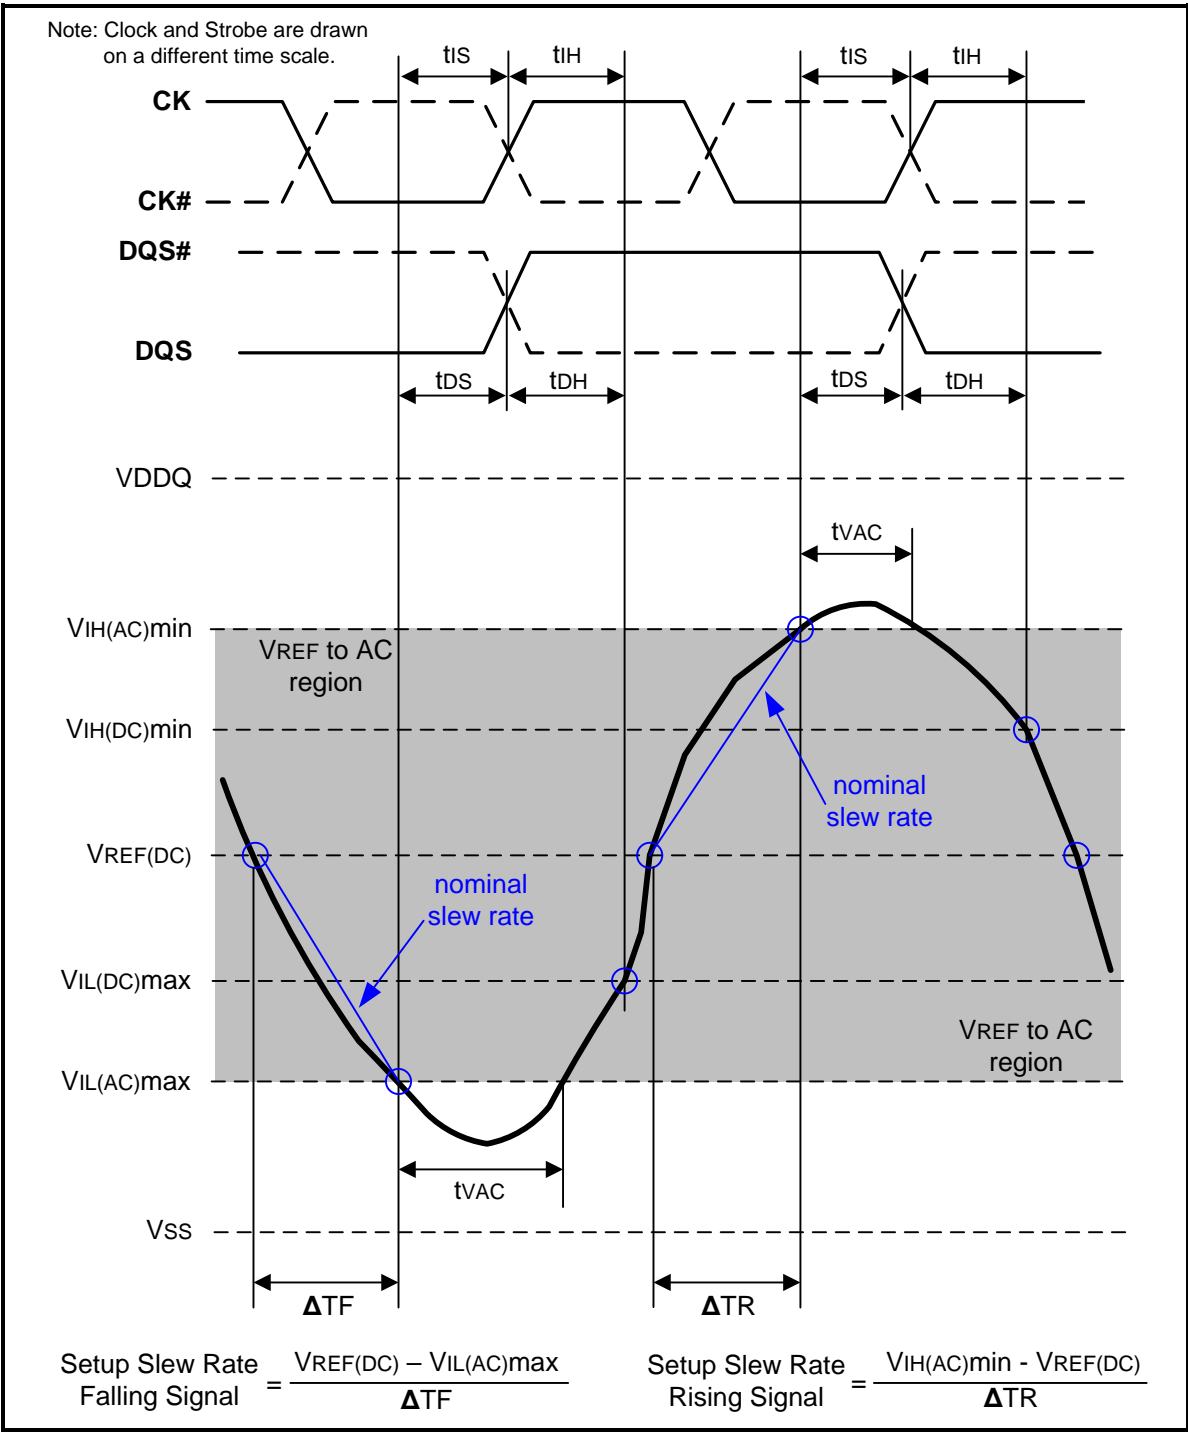
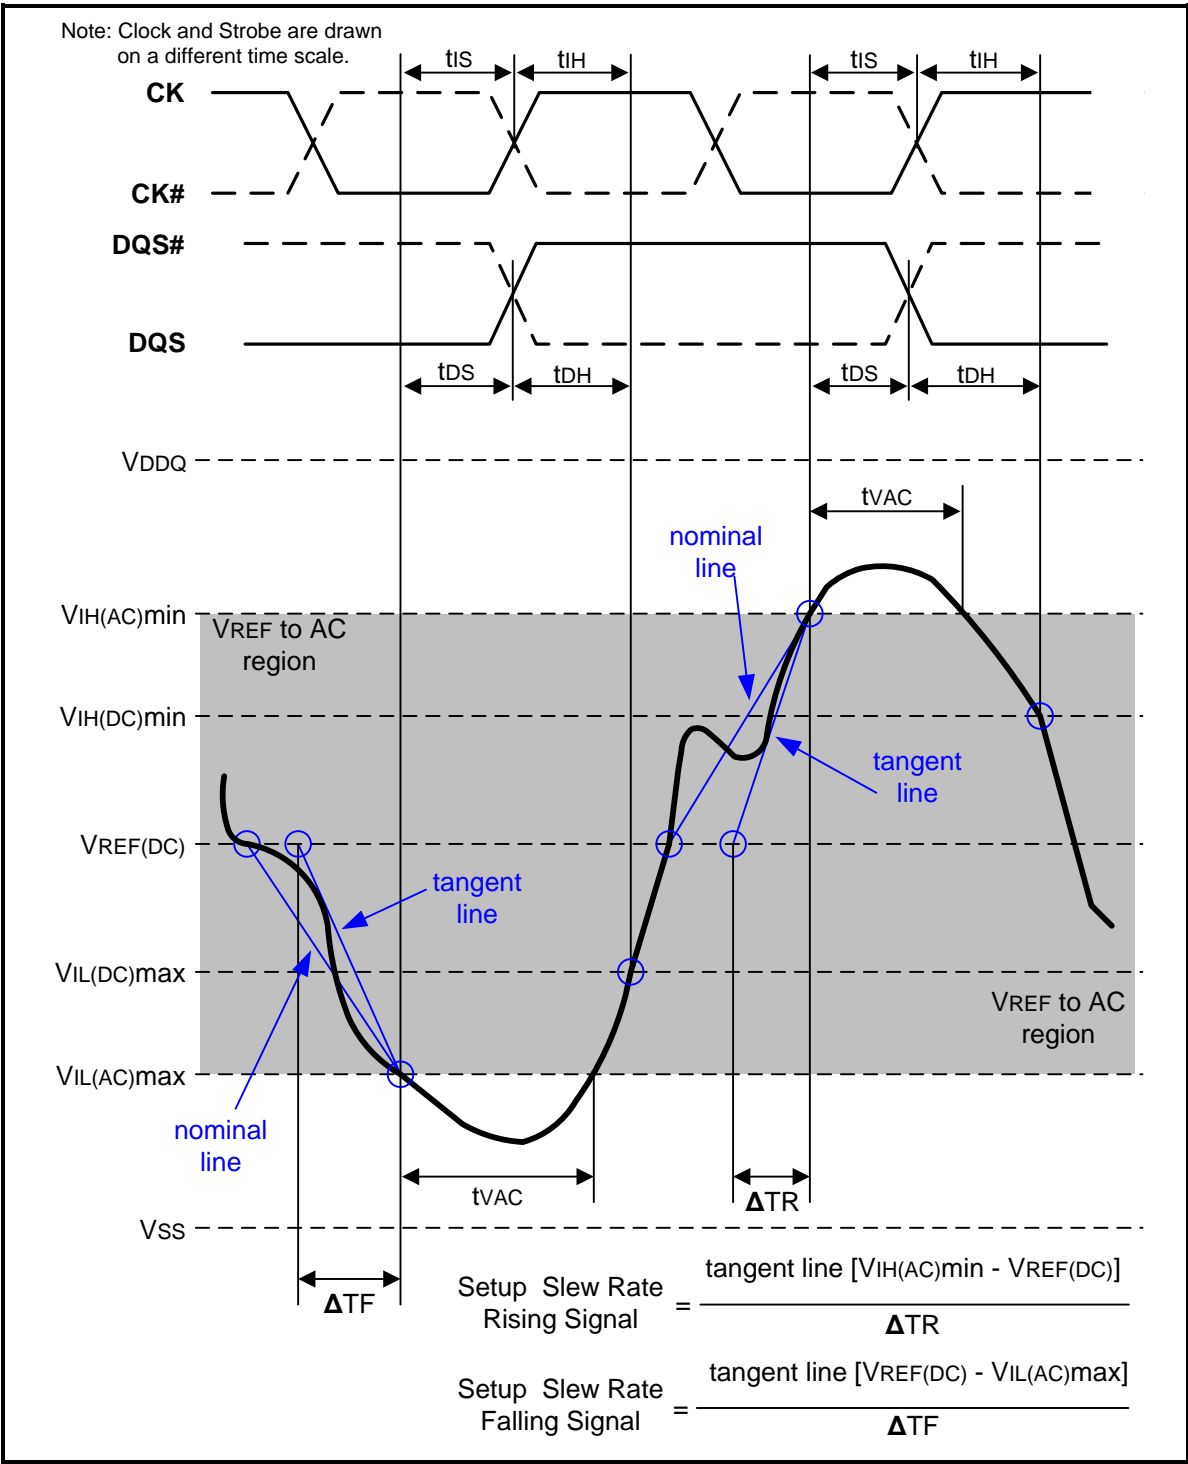

Figure 107 – Illustration of nominal slew rate and tvac for setup time tds (for DQ with respect to strobe) and tis (for ADD/CMD with respect to clock)
Figure 109 – Illustration of tangent line for setup time tds (for DQ with respect to strobe) and tis (for ADD/CMD with respect to clock)
Setup ( $t_{IS}$ ) nominal slew rate for a rising signal is defined as the slew rate between the last crossing of  $V_{REF}(\text{DC})$  and the first crossing of  $V_{IH}(\text{AC})_{\text{min}}$ . Setup ( $t_{IS}$ ) nominal slew rate for a falling signal is defined as the slew rate between the last crossing of  $V_{REF}(\text{DC})$  and the first crossing of  $V_{IL}(\text{AC})_{\text{max}}$ . If the actual signal is always earlier than the nominal slew rate line between shaded 'VREF(DC) to AC region', use nominal slew rate for derating value (see Figure 107). If the actual signal is later than the nominal slew rate line anywhere between shaded 'VREF(DC) to AC region', the slew rate of a tangent line to the actual signal from the AC level to  $V_{REF}(\text{DC})$  level is used for derating value (see Figure 109).
Setup (tDS) nominal slew rate for a rising signal is defined as the slew rate between the last crossing of VREF(DC) and the first crossing of VIH(AC)min. Setup (tDS) nominal slew rate for a falling signal is defined as the slew rate between the last crossing of VREF(DC) and the first crossing of VIL(AC)max (see Figure 107). If the actual signal is always earlier than the nominal slew rate line between shaded 'VREF(DC) to AC region', use nominal slew rate for derating value. If the actual signal is later than the nominal slew rate line anywhere between shaded 'VREF(DC) to AC region', the slew rate of a tangent line to the actual signal from the AC level to VREF(DC) level is used for derating value (see Figure 109).